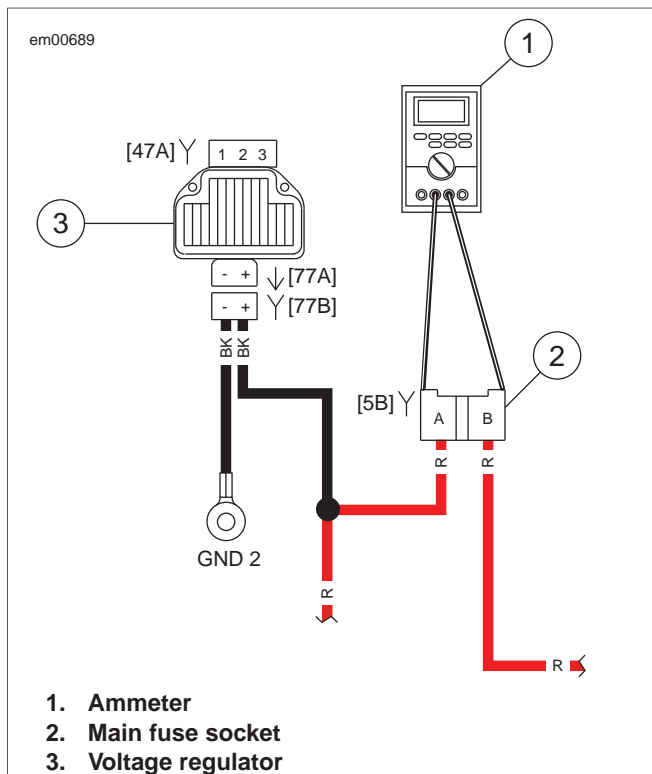

Figure 3-17. Milliampere Draw Test (Ignition Turned to OFF)
4. See Figure 3-17. Using HARNESS CONNECTOR TEST KIT (Part No. HD-41404-B), connect ammeter to main fuse socket terminals. With this arrangement, you will also pick up any regulator drain.